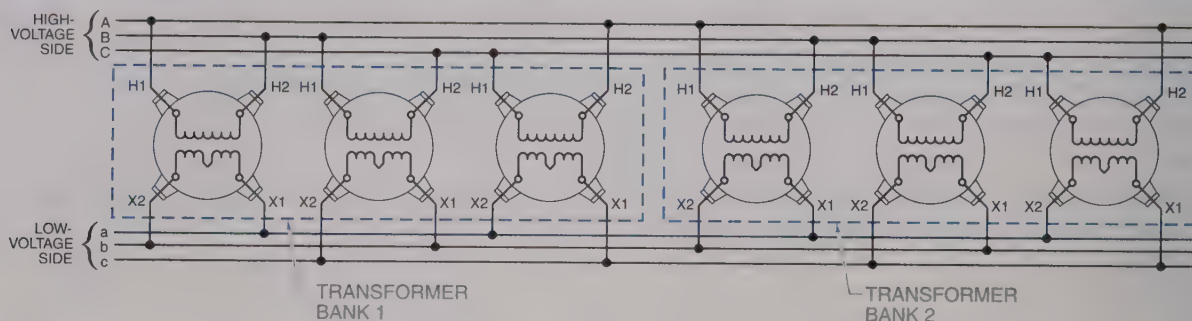

Figure 28-24. Like 1 ϕ transformers, 3 ϕ transformers may also be connected in parallel as long as certain conditions are met.
- Angular displacement of the transformer banks is the same. For example, both banks must have a 0° , 30° , or 180° angular displacement. Standard angular displacements are 0° for wye-to-wye or delta-to-delta connected banks and 30° for wye-to-delta or delta-to-wye connected banks. See Figure 28-24.